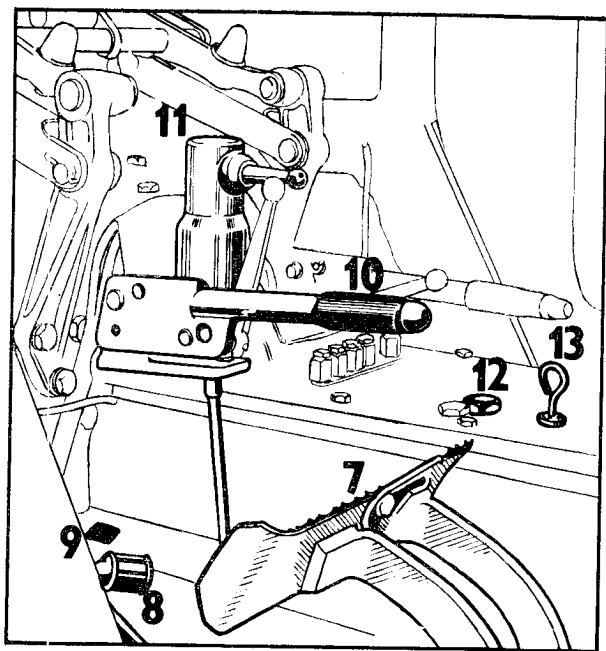

Fig. 5
When changing PTO exchangeable end pieces (Fig. 5/11) from 540 RPM (1000 RPM) to 1000 RPM (540 RPM) and vice versa it is necessary to put the PTO revolutions control lever in its neutral position and only then change the PTO end part. This operation being carried out, 1000 RPM (540 RPM) can be engaged again.
7. Foot brake pedals are connected by means of a catch (Fig. 5/7).
8. Accelerator pedal (Fig. 5/8).
9. Differential lock pedal (Fig 5/9).
10. Hand brake control lever (Fig. 5/10)
12. Oil filling orifice of the gearbox and main transmission housing (Fig. 5/12).
13. Oil dipstick for checking of the oil level in the gearbox and the main transmission housing (Fig. 5/13).